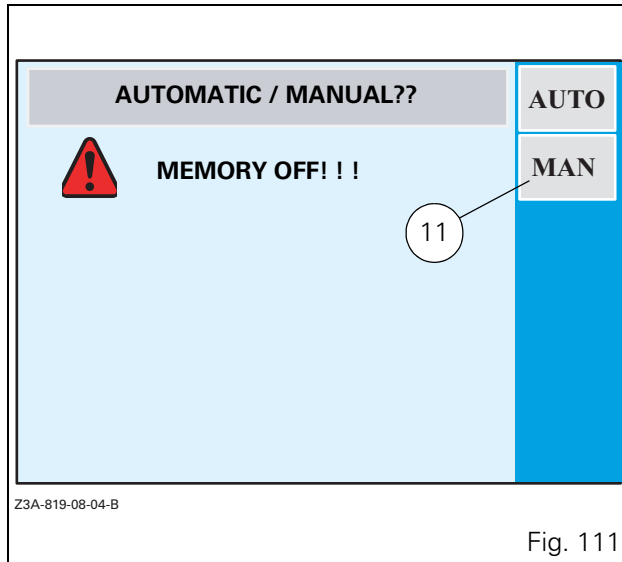
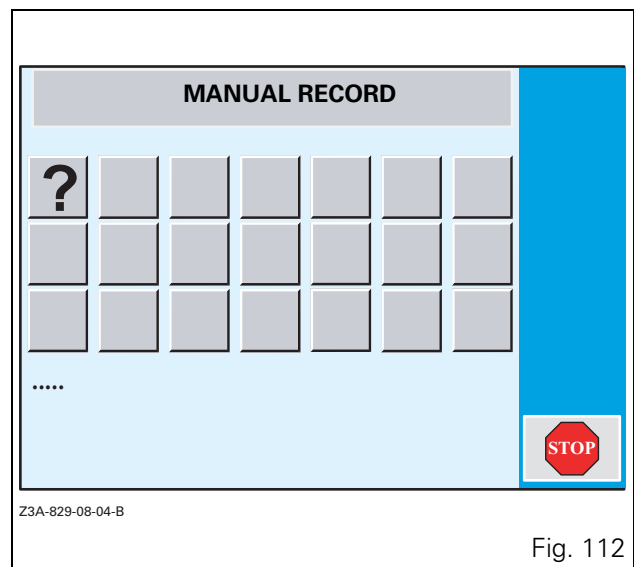

Fig. 111
Fig. 112
When the window (Fig. 111) is open, press the key «₂ to select MANUAL mode (11). The window (Fig. 112) is displayed.